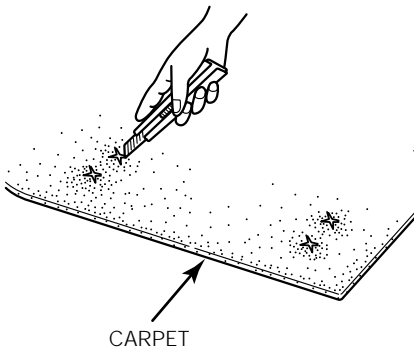

Fig.11
- 4.** Replace the carpet and cut x pattern thru carpet where the mounting bolts appear. (Fig.11)